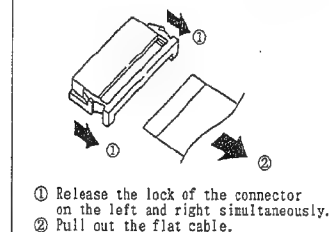

Fig. 2-1
3. Disconnect flat cables from connectors by the procedure shown in Fig. 2-1. Since many circuit boards in the camera/recorder are connected by in-board connectors, be sure to follow DISASSEMBLY when removing the circuit boards.